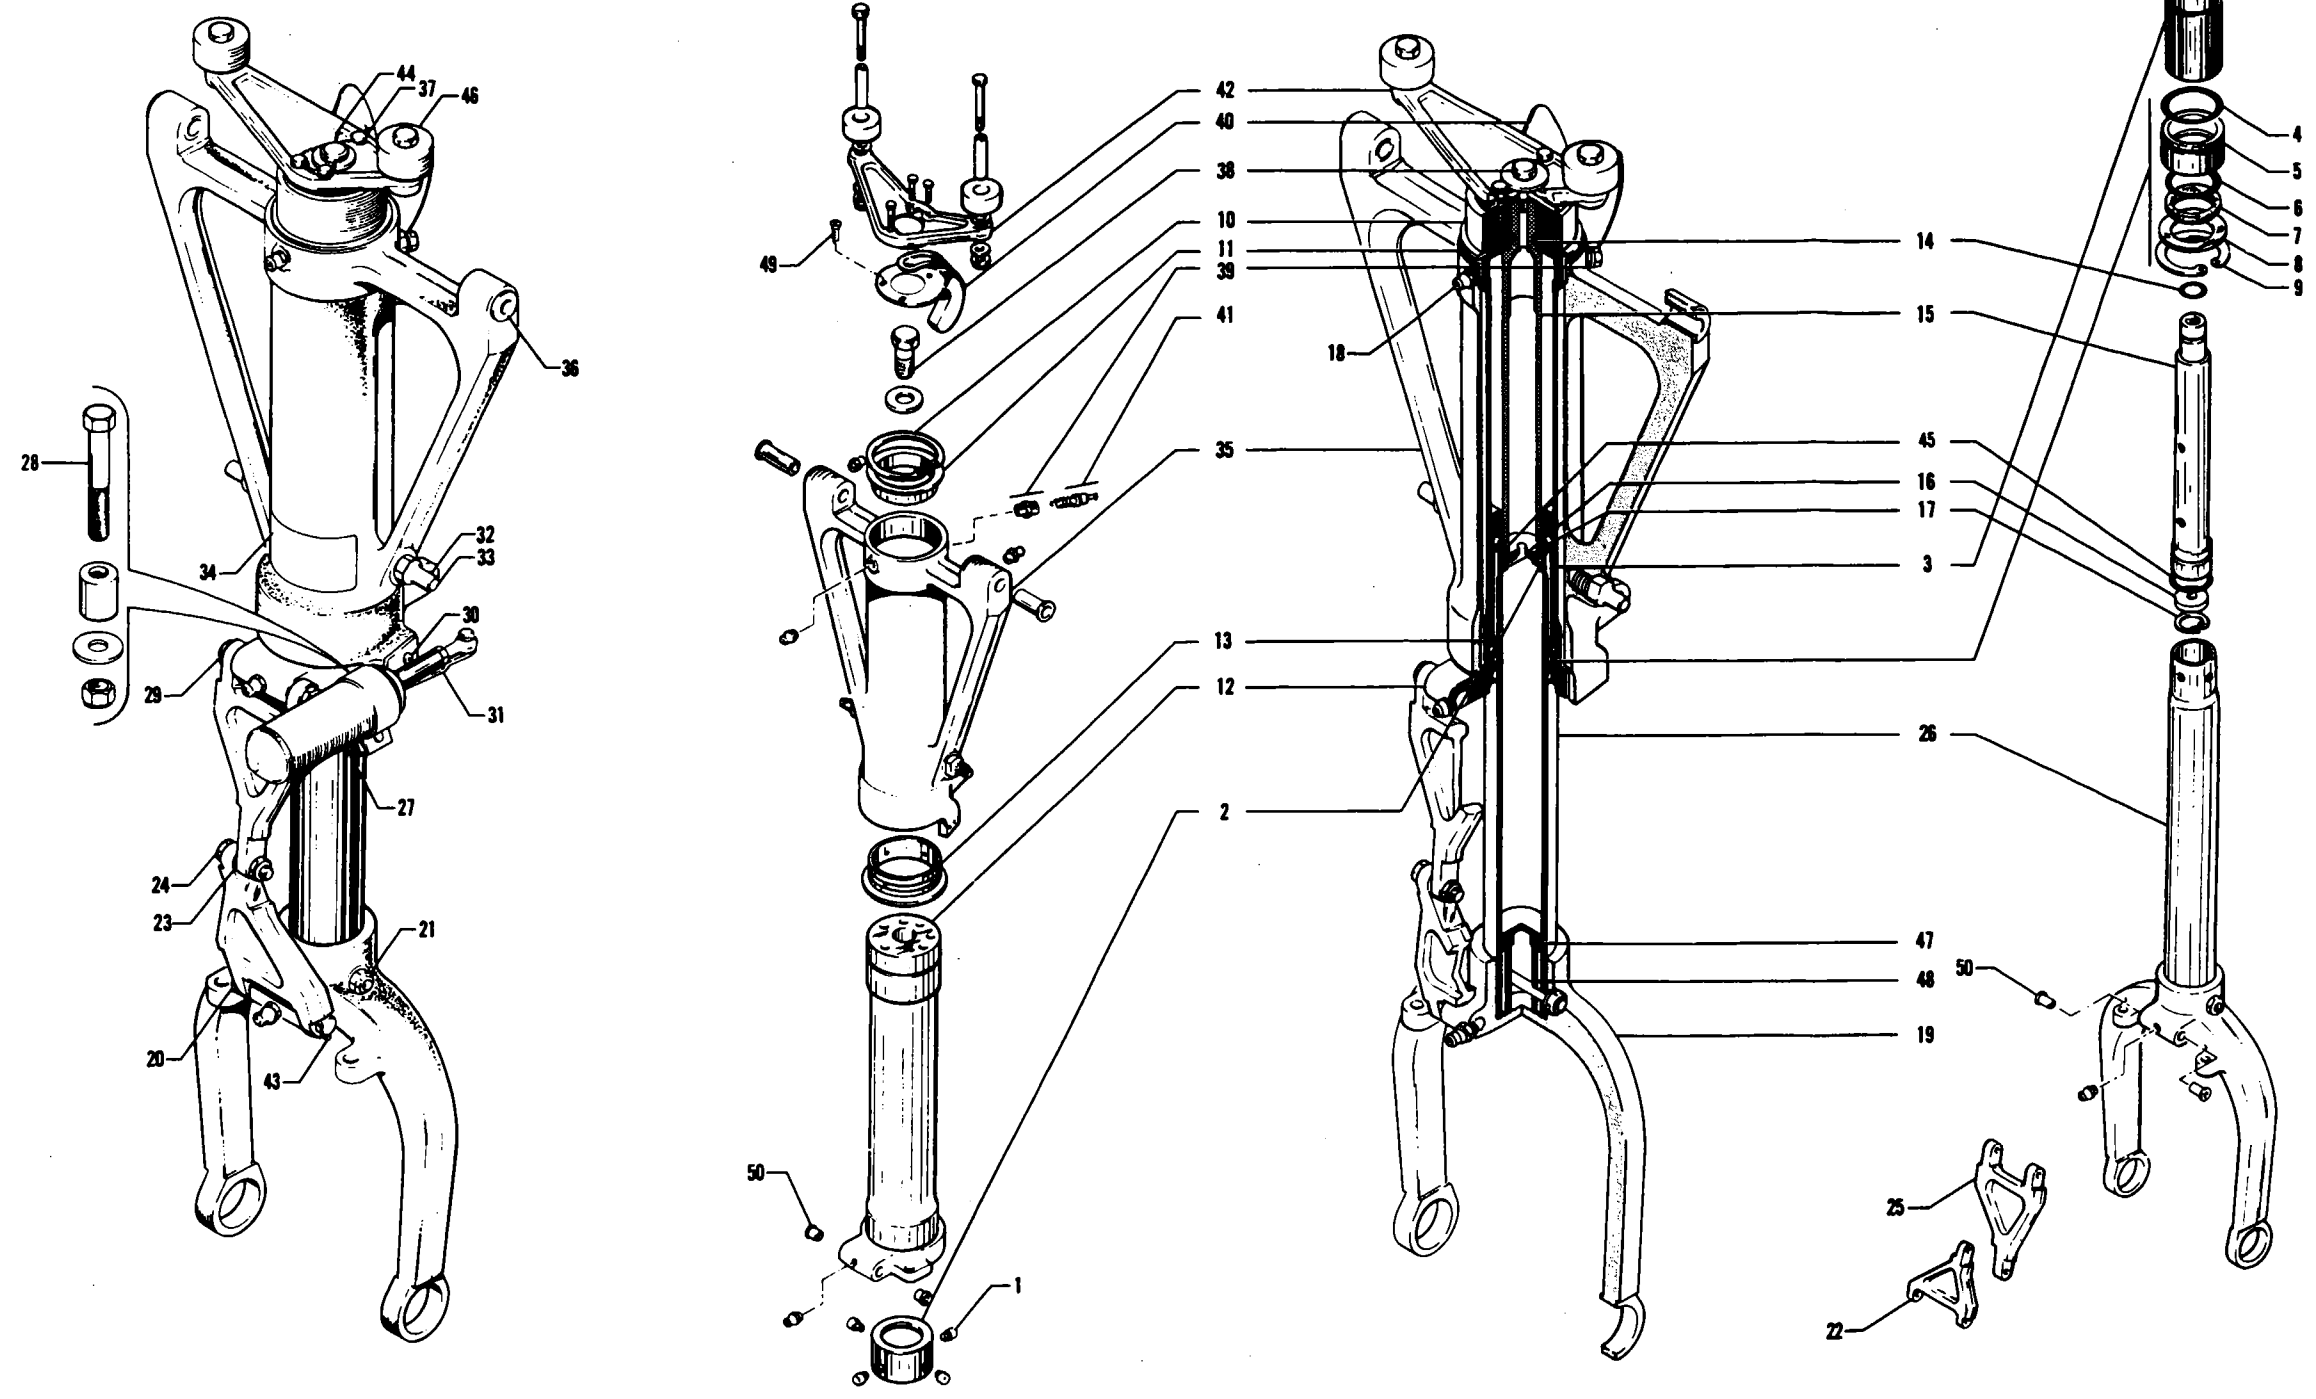

Figure 7-1. Nose Gear Oleo Strut Assembly
7-6. DISASSEMBLY OF NOSE GEAR OLEO. (Refer to Figure 7-1.) The nose gear oleo assembly may be removed and disassembled from the gear oleo housing with the gear removed from or installed on the airplane.
- 7-8. ASSEMBLY OF NOSE GEAR OLEO. (Refer to Figure 7-1.)
- b. To assemble the orifice tube (15), insert the orifice plate (16) into the bottom of the tube, with the countersunk side of the orifice hole exposed. Secure the plate with the retainer ring (17). Lubricate and install the O-ring (14) on the upper end of the tube.
- c. Insert the tube up through the bottom of the cylinder (12). Orifice tube (15) is fully installed in cylinder housing (12) when the upper end of the orifice tube is approximately .062 lower than flush with the upper end of cylinder assembly.
- d. The fork tube assembly may be assembled by installing the tube components on the tube (26). In order, slide onto tube; retainer ring (9), washer (8), lower bearing (5) with outer and inner O-rings (4 and 6), spacer (3) and upper bearing (2). Using the reference marks applied during disassembly, align lock pin holes of the upper bearing and piston tube, and install pins (1).
- e. Lubricate the inner wall of the cylinder. Carefully insert the piston tube assembly into the bottom of the cylinder (12), allowing the orifice tube to guide itself into the piston tube, until the retainer ring (9) can be installed in the annular slot at the end of the cylinder. Install wiper strip (7), slide washer (8) into position and secure assembly with retainer ring.
- f. At the top of the cylinder (12) tighten the orifice tube bolt (38).
- h. Ascertain that the upper and lower oleo housing bushings (11 and 13) are installed. Install the cylinder into the oleo housing and secure with retainer ring (10).
- i. At the top of the oleo housing, install on the cylinder the aligner guide bracket (40) and steering arm (42). Torque cap bolts (37), 30-35 in.-lbs. and safety with MS20995C40 wire (44).